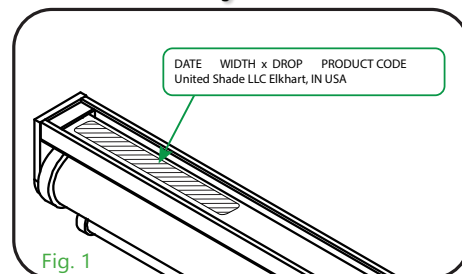

Fig. 1
1. Determine Valance cut length: Locate label on the roller/pleated shade's headrail. The first number on the shade label is the width. See Fig. 1.